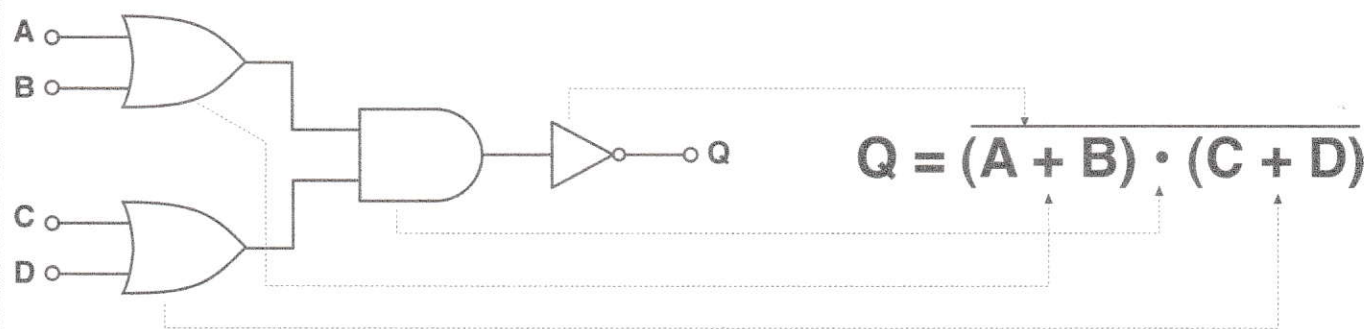

Figure 6 - A Combinational Circuit and Its Boolean Equation
Figure 6 shows a little more complicated combinational circuit and its Boolean equation. This circuit contains four gates, has four inputs (A through D) and one output (Q).